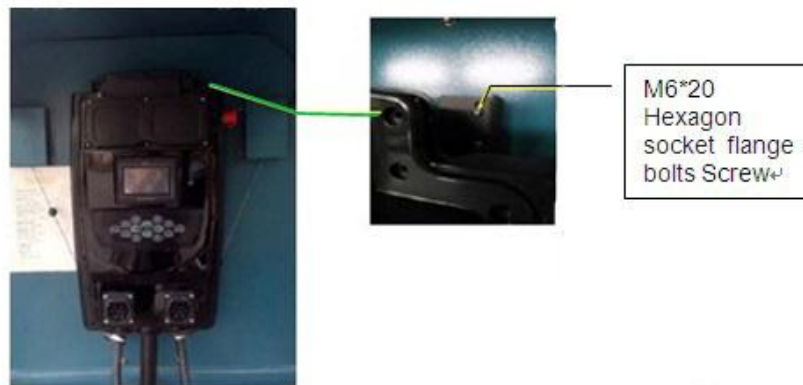

Fig 3 Charging Box fastening diagram
- **Step 4:** Hang the wall-mounted Charging Box on the rack and use 2 M6\*20 hexagon socket flange bolts to fasten the Charging Box, as shown in Fig 3.